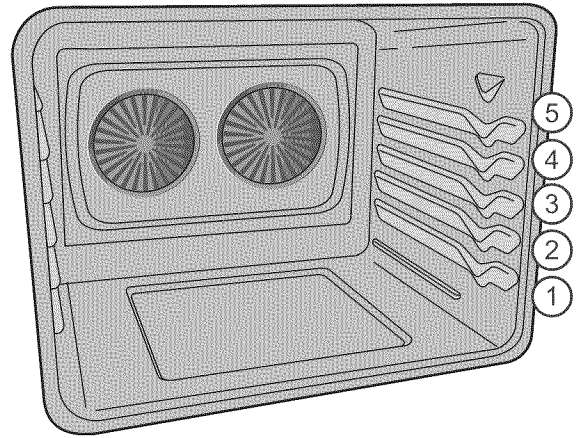

Fig. 2
2. Arrange the interior oven rack to rack position recommendations -Figs. 2 & 3-. Be sure to place the prepared food and pan directly under broil element. Leave the oven door closed.